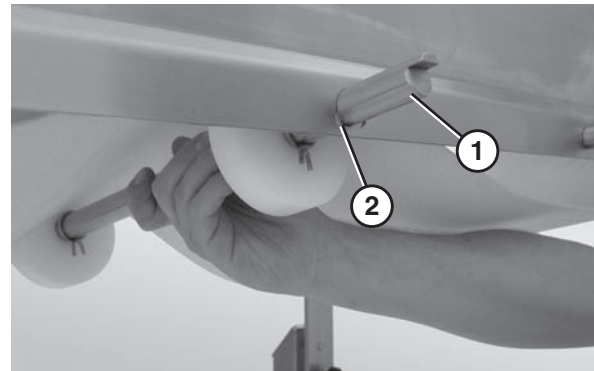

Figure 24
1. Slide the return shaft (Figure 24, item 1) up and through the large slot (Figure 24, item 2) in the frame.